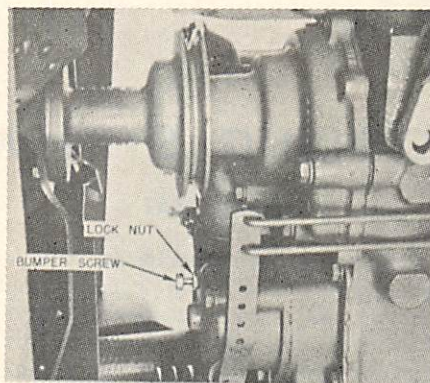

Fig. O99 — Adjust bumper screw to minimize surging at high idle no load speeds. Refer to text for proper adjustment procedure.
**135. HIGH IDLE SPEED.** Prior to checking high idle speed, check carburetor to governor linkage adjustment as outlined in paragraph 133 and slow idle speed as in paragraph 134. Then, with engine running and at normal operating temperature, place throttle lever in high idle position and check engine RPM. High idle speed on Series 1600 models should be 2100 RPM, and on Series 1650 models, should be 2450 RPM. If high idle speed is not as specified, stop engine, place throttle lever in slow idle position, loosen bumper screw lock nut (see Fig. O99) and back-out bumper screw until governor operating lever is released. Then, proceed as follows:
**136. BUMPER SCREW.** Engine surging at high idle speed can be eliminated by adjustment of the bumper screw (Fig. O99). Stop engine, loosen bumper screw lock nut and turn bumper screw inward slightly. Restart engine and check for surging at high idle speed. Continue to make slight adjustments to bumper screw until surging is eliminated. DO NOT turn bumper screw while engine is running or turn screw in farther than necessary to eliminate surging. Tighten bumper screw lock nut and recheck low idle RPM as in paragraph 134.